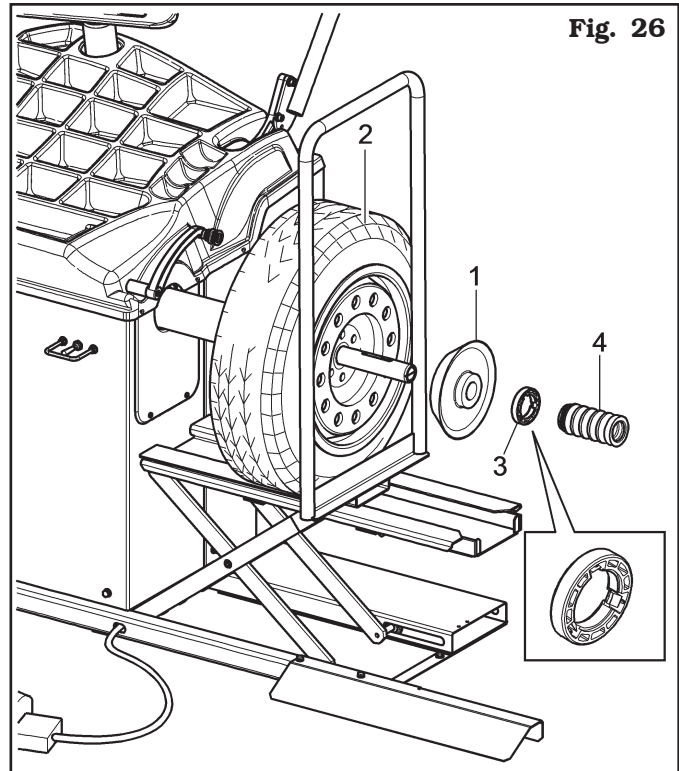

Fig. 26
6. Fit the cone (**Fig. 26 ref. 1**) against the wheel (**Fig. 26 ref. 2**) to be balanced with the narrowest part against the wheel. This accessory should be selected according to the shape of the rim.
7. Fit the pressure ring (**Fig. 26 ref. 3**) in the sleeve (**Fig. 26 ref. 4**) and screw everything against the cone (**Fig. 26 ref. 1**).
THE PRESSURE RING (FIG. 26 REF. 3) MUST BE MOUNTED WITH THE TEETH SIDE TOWARDS THE SLEEVE (FIG. 26 REF. 4).